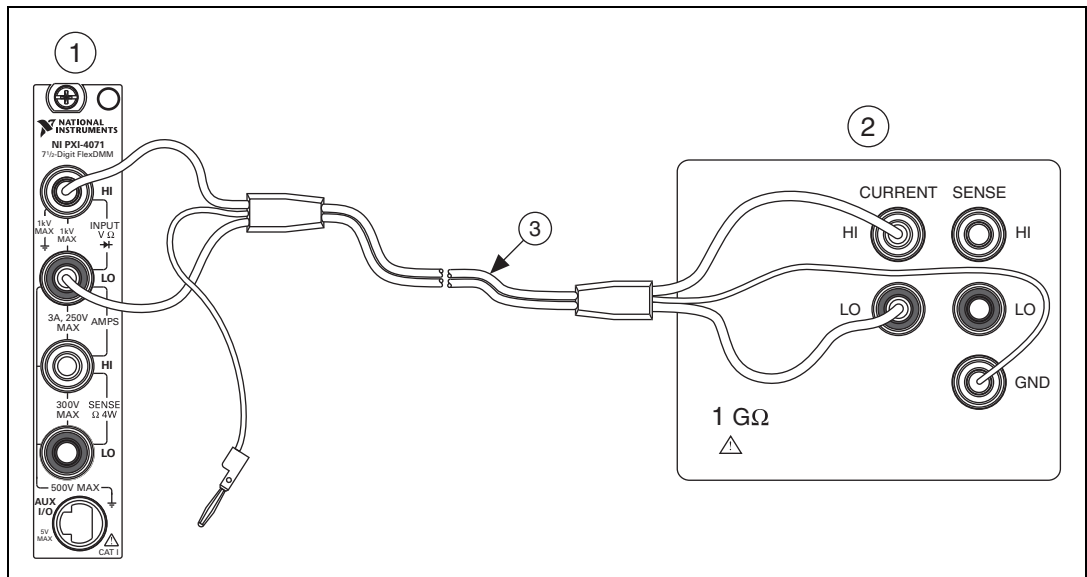

Figure 4. Cable Connections for 1 G Ω Standard Resistor
1. Connect a 1 G Ω standard resistor to the NI 4071 using the Fluke 5440 cable or applicable low thermal cabling, as shown in Figure 4. Table 13 lists the cable connections.